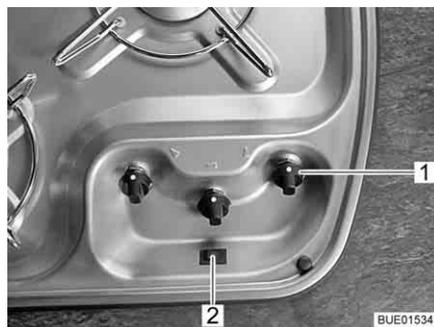

Fig. 217 Operating controls for gas cooker
- Turn the control knob (Fig. 217,1) on the burner you wish to use to the ignition position (large flame).
- Press lighting knob (Fig. 217,2). Ignition sparks are generated at the burner.